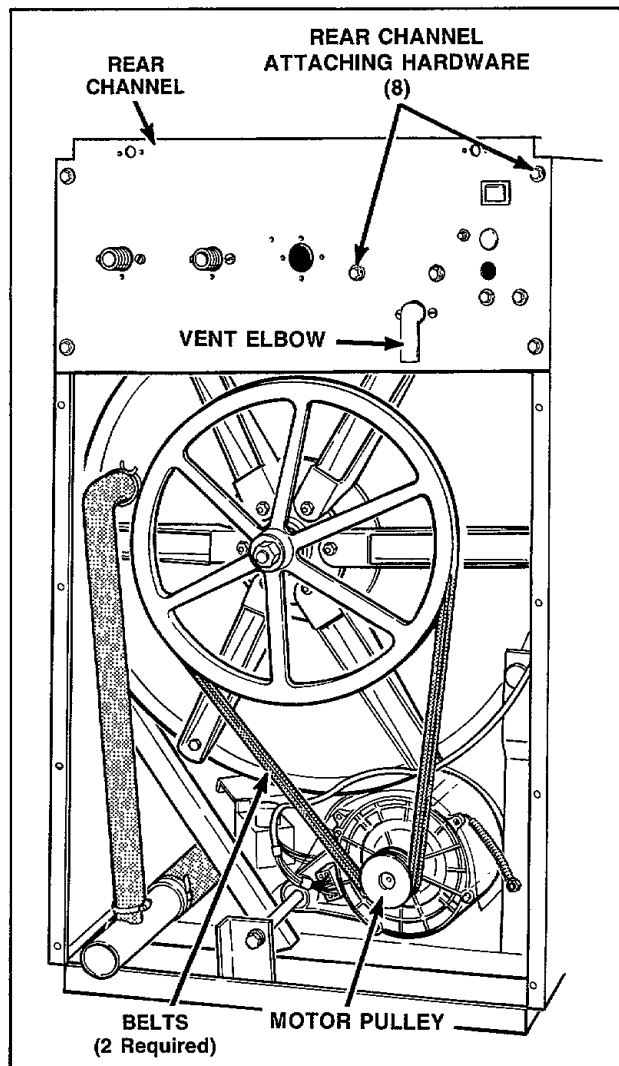

Figure 24
- d. Run the two belts off the motor pulley while slowly turning the cylinder pulley, *Figure 24*.
- e. Remove the eight screws holding the rear channel to the washer, *Figure 24*.
- f. Loosen hose clamp and remove vent hose at the elbow, *Figure 24*.